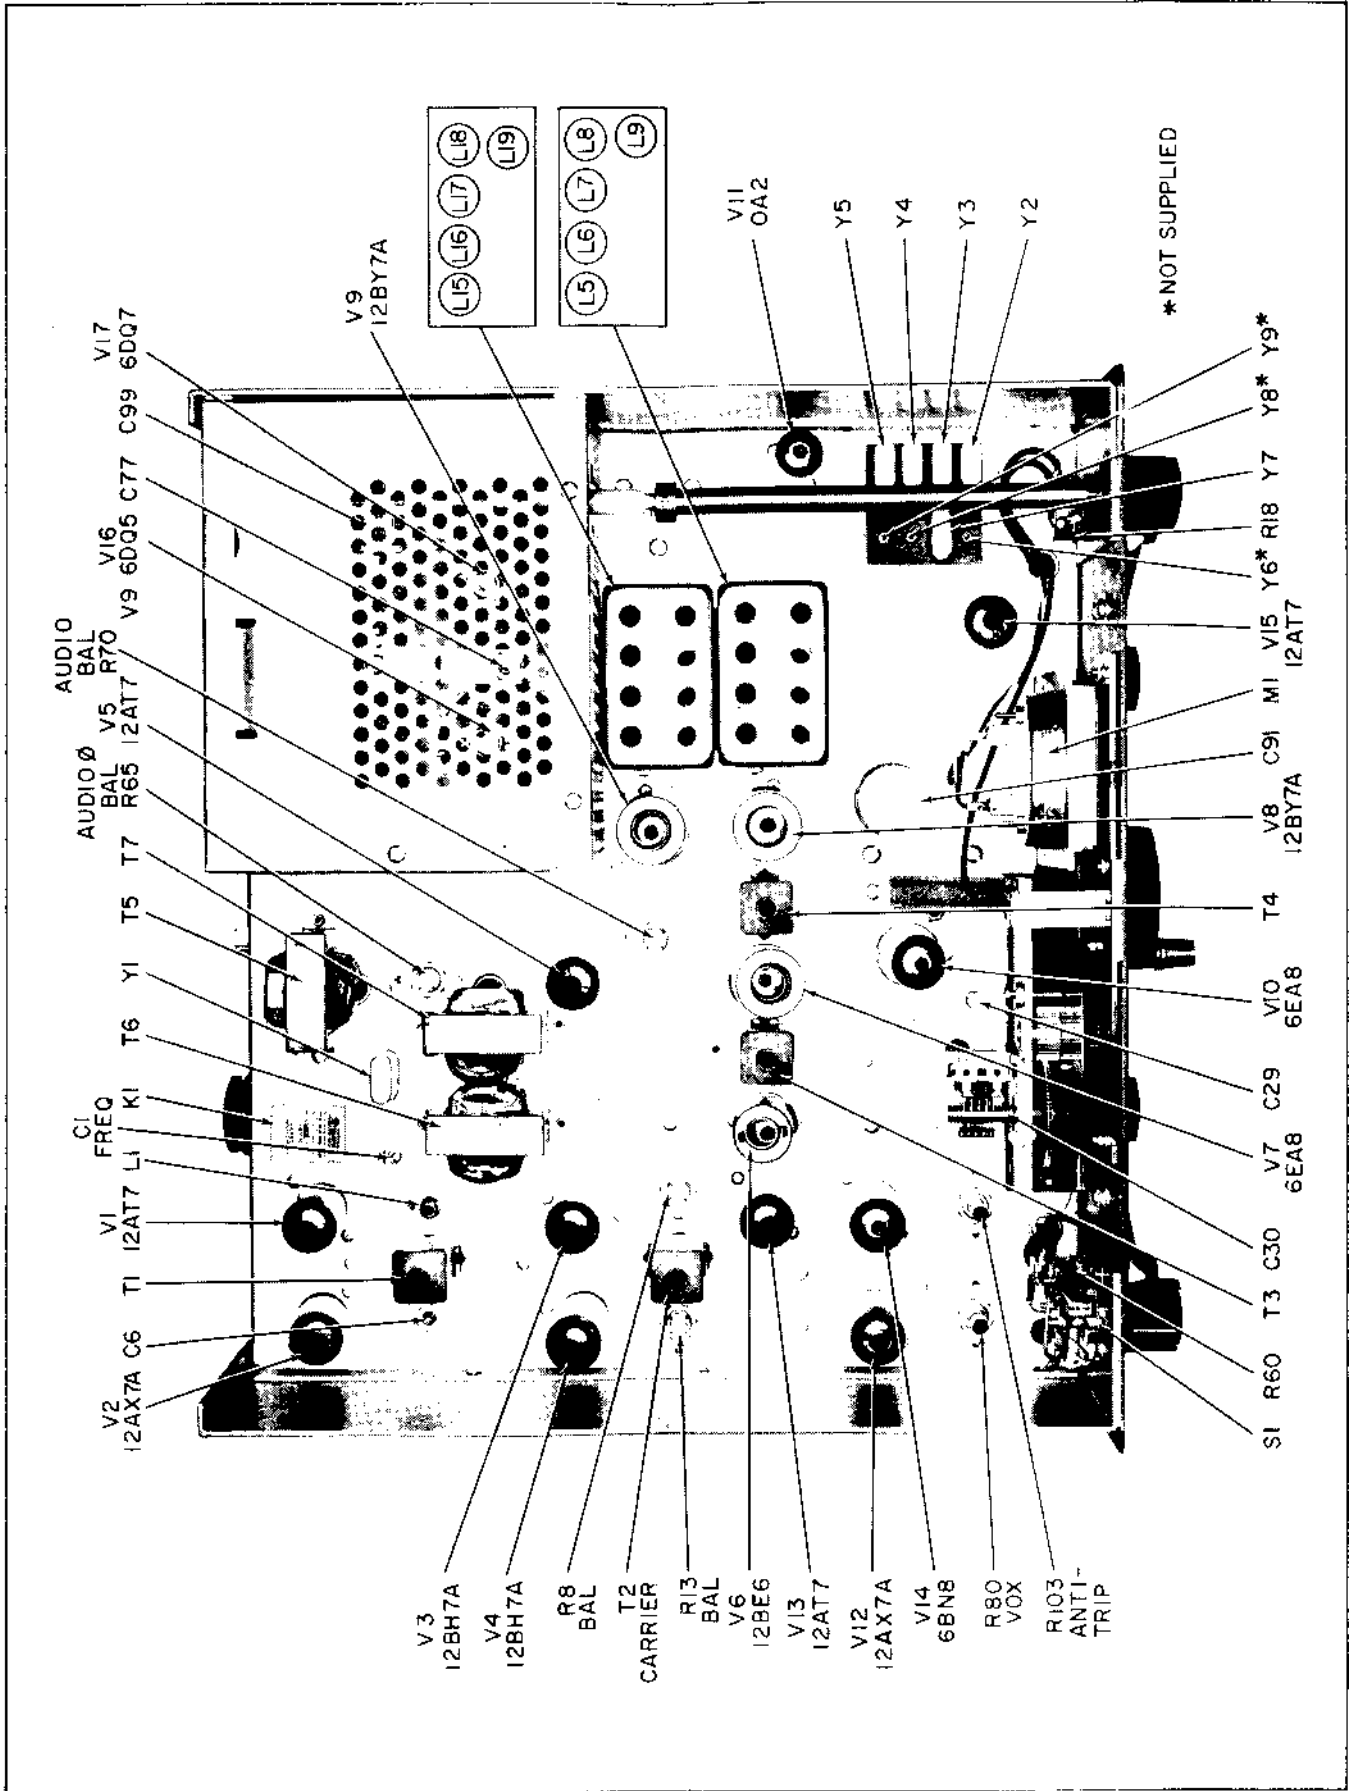
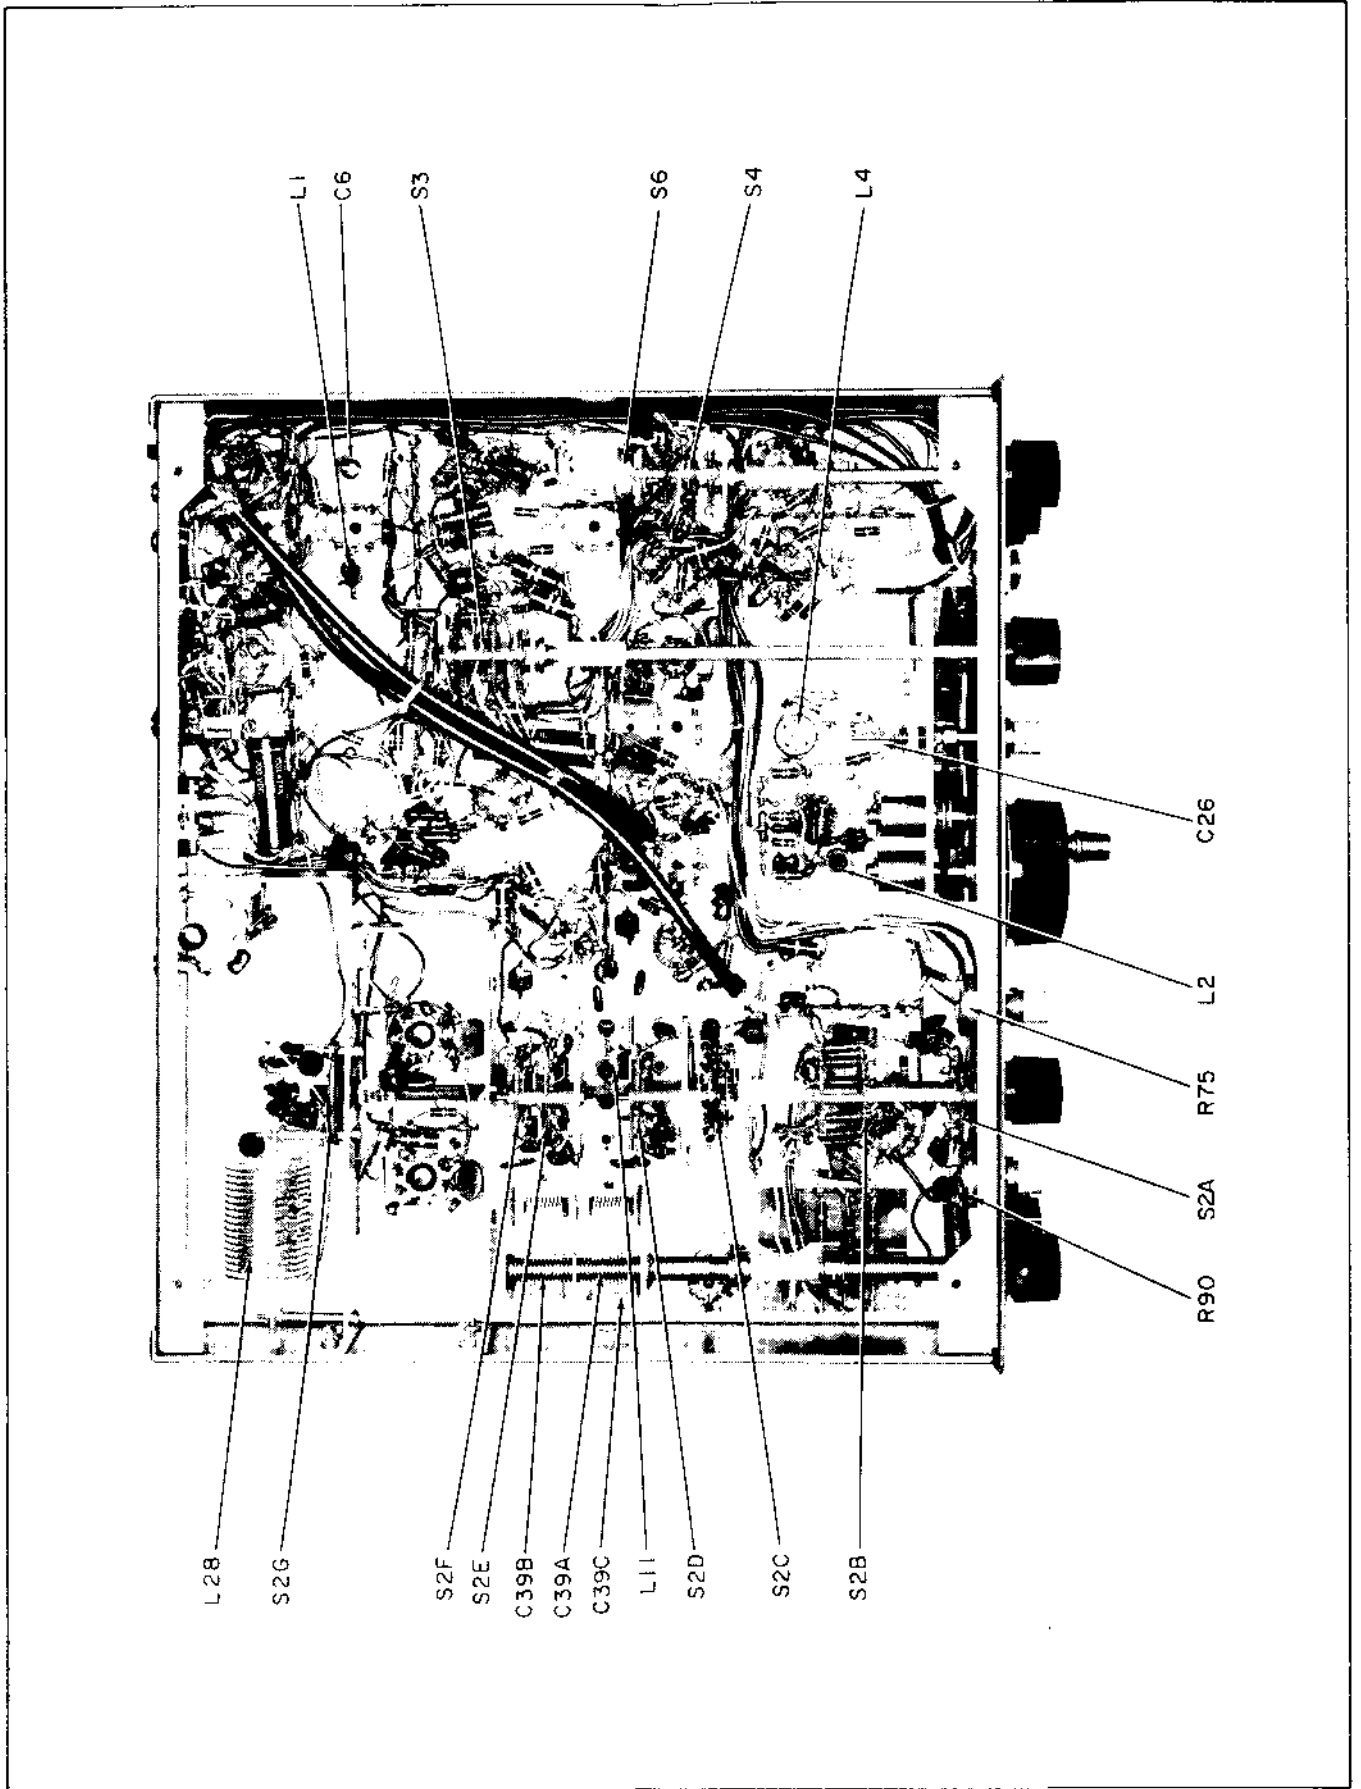

Figure 14. Top Chassis View Showing Component Locations.
Figure 15. Bottom Chassis View, Showing Components
13. Carefully adjust warping trimmer C1 in the HT-44 for zero beat. This trimmer is located near the top, left, rear corner of the chassis. (See figure 14.)
Do not make any adjustments unless the operation of this transmitter is fully understood and adequate test equipment is available. Refer to figures 14 and 15, the top and bottom views of the transmitter, for the locations of all adjustments.
3. 10-Meter Alignment. - Tune the Signal Generator to 28.0 MC. Set the FINAL TUNING control to the low end of the 10-meter segment (approximately 8 on the inner scale) and the DRIVER TUNING control also to the low end of the 10-meter segment (approximately 8 on the inner scale). Increase the signal generator output level until a small indication is noted on the HT-44 RF output meter. Tune the FINAL TUNING control for maximum output indication. Adjust the cores of coils L5 and L15 (see figure 14 for location) for maximum output, reducing the signal generator output level as required to keep the meter reading at half-scale or less. Set the signal generator to 29.7 MC. Set the FINAL TUNING control to the high end of the 10-meter segment (approximately 9-1/2 on the inner scale) and set the DRIVER TUNING control to the high end of the 10-meter segment (approximately 9-1/2 on the inner scale). Adjust trimmer capacitor (C39C) located on the side of C39A (see figure 15 ) for maximum output while slightly rocking the DRIVER TUNING control. Return the signal generator to 28.0 MC and repeat the above alignment until tracking is accomplished. (NOTE: Trimmer C39C should not be readjusted on the other bands.)
4. 15-Meter Alignment. - Tune the signal generator to 21.0 MC and set the FINAL TUNING control to the low end of the 15-meter segment (approximately 7-1/2 on inner scale). Set the DRIVER TUNING to the low end of the 15-meter segment (approximately 7 on the inner scale). Increase the signal generator output level until a small indication is noted on the RF output meter and adjust the FINAL TUNING control for maximum output, reducing the signal generator output level as required to keep the meter at half-scale or less. Adjust the cores of coils L6 and L16 (see figure 14 for location) for maximum output, reducing the signal generator output as required to keep the meter at half-scale or less.
7. 6.5-MC Trap Adjustment. - While on the 40-meter band, set the signal generator to 7.0 MC and adjust the FINAL TUNING and DRIVER TUNING controls for maximum output. Without changing the FINAL TUNING or DRIVER TUNING, reset the signal generator to 6.5 MC and increase the signal generator output level until a small indication is noted on the RF output meter. Adjust the 6.5-MC trap core, L11 (see figure 15 for location) for minimum output, increasing the signal generator output as required. A slight readjustment of L8 may be required after this adjustment.
Proceed as follows: Set the CAL. ADJ. trimmer to mid-range (dot up). Set the OPERATION switch to CAL. Set the BAND SELECTOR to 3.5 MC (80-meter). Tune the receiver to 3.5 MC on the 100-KC marker signal (BFO off). Set the HT-44 TUNING CONTROL (dial) to the red 500 (3.5 MC). Carefully adjust trimmer C29 for zero beat (see figure 14 for location).
If the dial error progressively increases in the same direction with the high-frequency end running out more than 3000 CPS, at this end, both L4 and C29 should be adjusted. Proceed as follows: Set the TUNING dial to 4.0 MC (red 1000) and the Receiver to 4.0 MC. Adjust the slug of L4 (see figure 15 for location) to zero beat. Set the TUNING dial to 3.5 MC (red 500), the receiver to 3.5 MC, and adjust C29 for zero beat. Repeat the adjustments at 4.0 MC and 3.5 MC until both points are on frequency.
Remove V15 (12AT7) from its socket to disable the heterodyne oscillator signal. Connect the probe of the RF voltmeter to the grid of the Second Mixer (pin 2 of V8). Set the FUNCTION switch to CW and the OPERATION switch to MOX. Set the BAND SELECTOR to any 10-meter segment. Set the TUNING control dial to 250 and advance the RF LEVEL control until a small indication is noted on the RF voltmeter. Adjust the core of the VFO output coil (L2, See figure 15) for maximum reading. Set the TUNING control to 450 on the dial. Advance the RF LEVEL control until approximately 0.5 volt RMS is indicated on the RF voltmeter (HP 410 B or equal). Adjust top and bottom cores of IF transformers T3 and T4 for maximum voltmeter indication, keeping the level below 1 volt to prevent overload and false settings. After the transformers have been adjusted as described, increase the RF LEVEL control until 1 volt is indicated on the voltmeter. Tune the VFO (TUNING) across its range (0 to 500) while watching the voltmeter. The voltmeter should read between 0.8 and 1.0 volt over the entire range of the dial (0 to 500). After completion of this alignment, be certain to replace V15 (12AT7) in its socket.
Adjust the RF LEVEL control for about 60 volts RMS output (60 on the HT-44 RF output meter). Carefully tune the FINAL TUNING control and observe the plate current dip and the output voltage peak. If both occur at the same setting, the amplifier is neutralized. If both do not occur together, adjust the neutralizing capacitor, C77 (see figure 14), in small increments (1/4 to 1/2 turn) until neutralization is accomplished.
When the HT-44 is used as an independent transmitter/exciter, there is normally no need for adjustment of the carrier frequency trimmer C1 (see figure 14 for location). However, when the HT-44 is to be used in conjunction with an SX-117 receiver as a transceiver, the carrier frequency trimmer C1 must be set correctly. For this procedure, see Section VII, TRANSCEIVE (SLAVE) OPERATION.